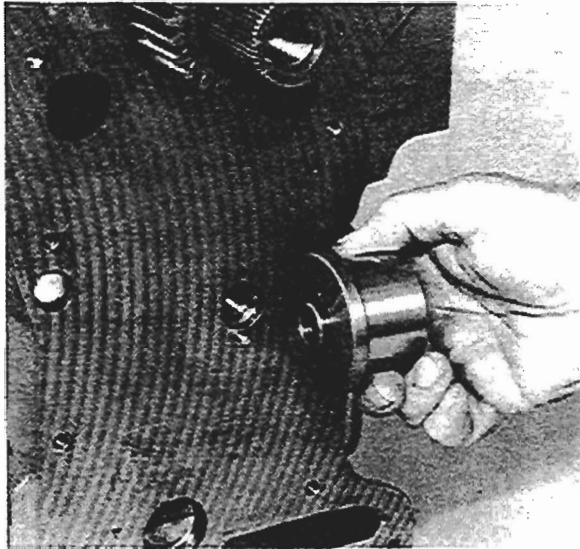

Fig. K11
12. Remove idler gear hub (see fig. K11).
1. To ensure correct location of timing case, fit and fully fasten idler gear hub to cylinder block (see fig. K11).